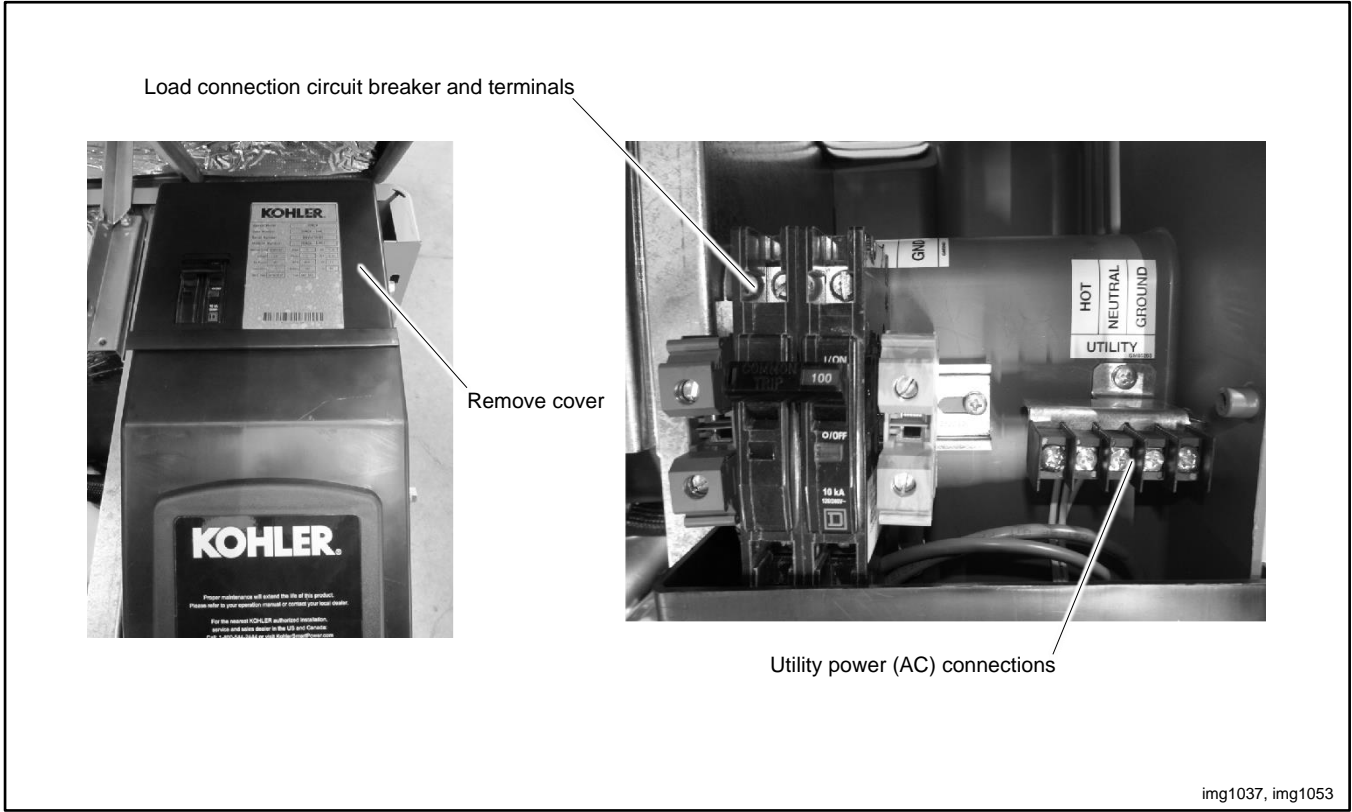

Figure 113 Field Connections
8. Remove the cover above the controller to access the load circuit connections. See Figure 113.